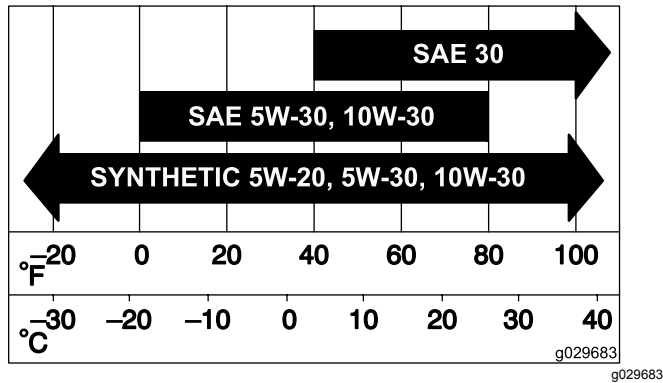

Figure 32
3. Release the latches on the air cleaner and pull the air-cleaner cover off the air-cleaner body (Figure 32).
5. Gently slide the filter out of the air-cleaner body (Figure 32).
2. Carefully slide the filter into the air-cleaner body (Figure 32).
3. Install the air-cleaner cover and secure the latches (Figure 32).